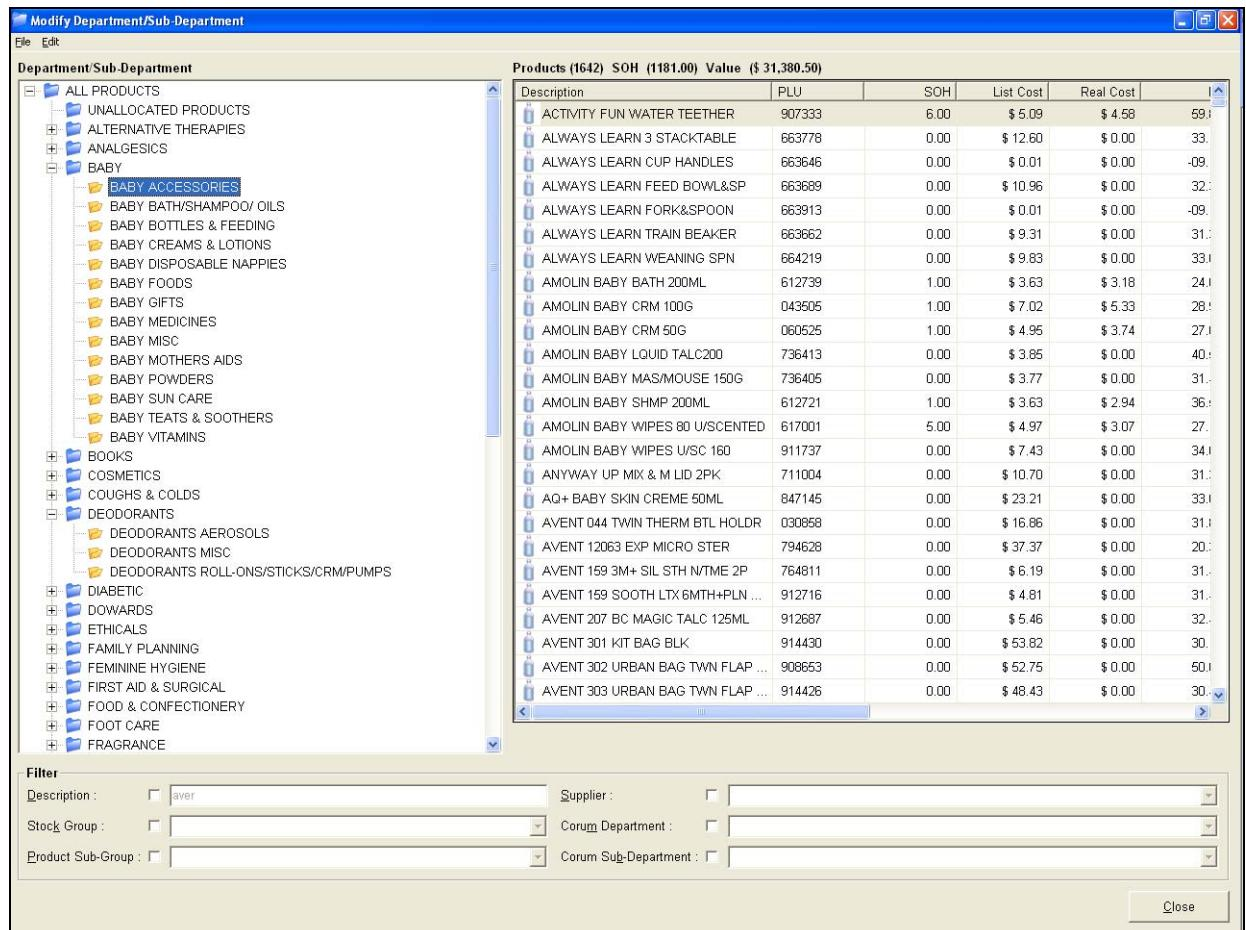

Figure 172
2. The ‘Modify Department/Sub-Department’ window will be displayed (as shown in Figure 172).